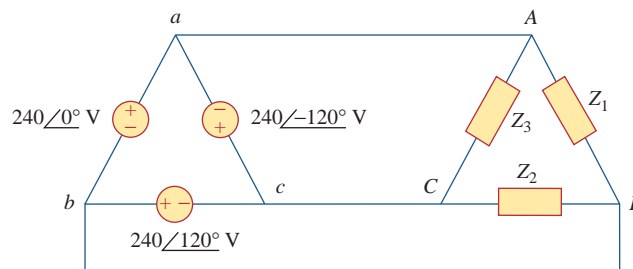

Figure 12.60
- 12.51** Consider the $\Delta\text{-}\Delta$ system shown in Fig. 12.60. Take $\mathbf{Z}_1 = 8 + j6 \Omega$, $\mathbf{Z}_2 = 4.2 - j2.2 \Omega$, $\mathbf{Z}_3 = 10 + j0 \Omega$.